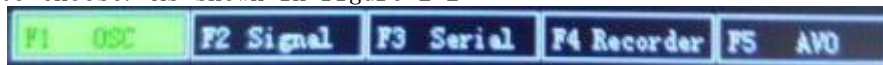

Figure 2-2 Instrument selection interface function
5. Long press "MENU" button, can choose interface, enter the instrument function by F1 ~ F5 select button to choose. As shown in figure 2-2